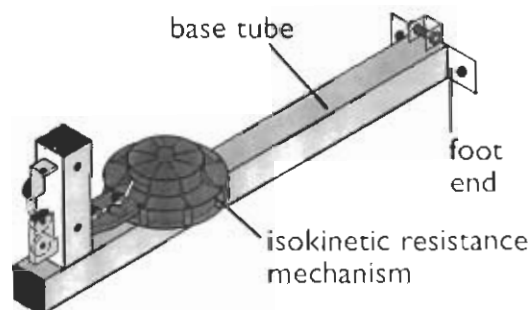

Figure 1
1. Lay the base tube on the floor with the attached isokinetic resistance mechanism facing up (Figure 1).